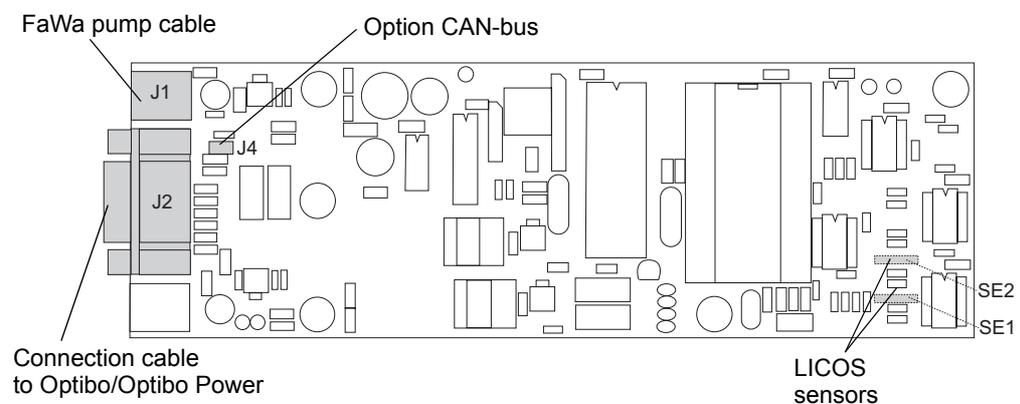
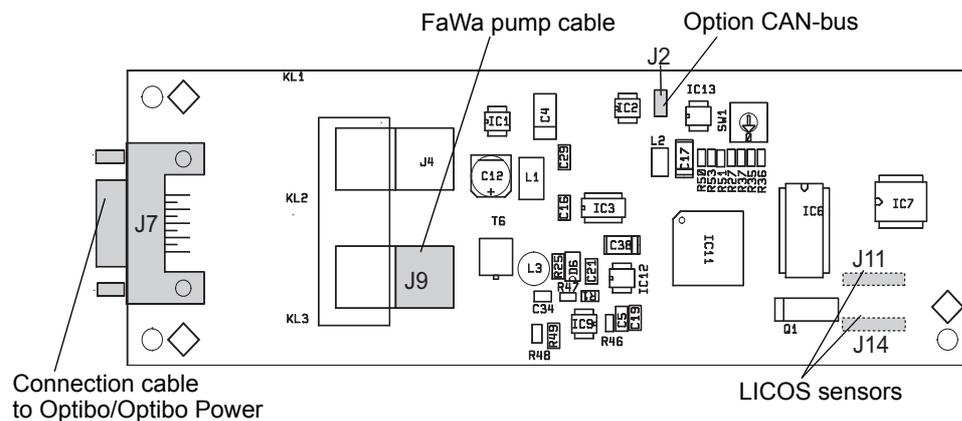

Figure 6-42 Connections to MPO board V2.0
Figure 6-43 Connections to MPO board V3.1/V4.0
- For correct cable connection refer to Figure 6-42, 'Connections to MPO board V2.0' or Figure 6-43, 'Connections to MPO board V3.1/V4.0'.
Refer to Figure 6-42, 'Connections to MPO board V2.0' or Figure 6-43, 'Connections to MPO board V3.1/V4.0'.